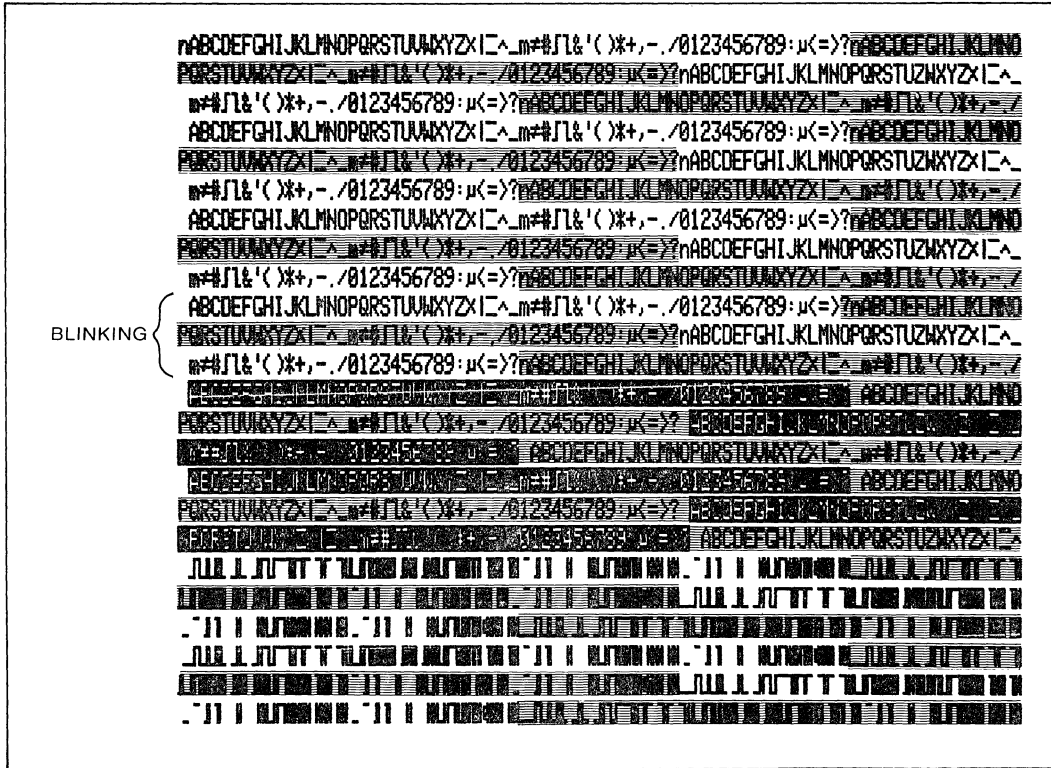

Figure 5-7. Result of the DISPLAY function.
1. Press the SELECT key twice. The video screen should show a display of all possible characters and attributes. The display should be like Figure 5-7.